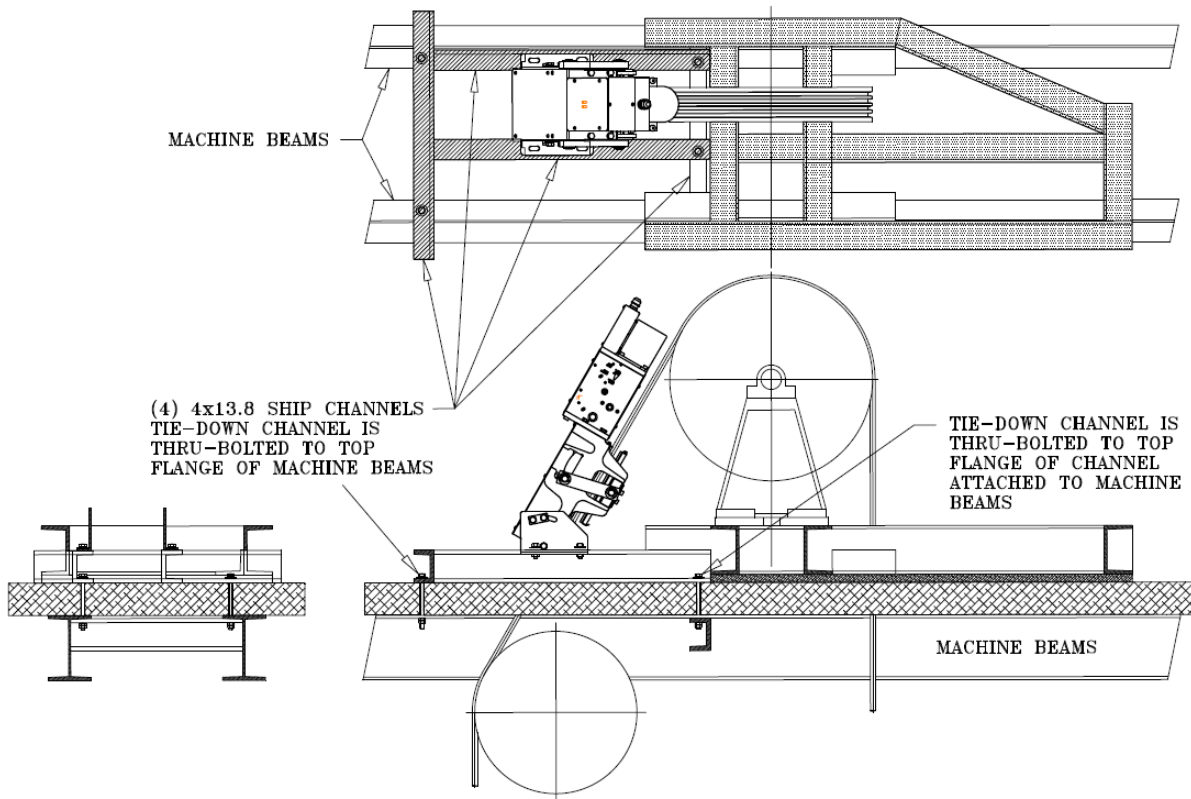
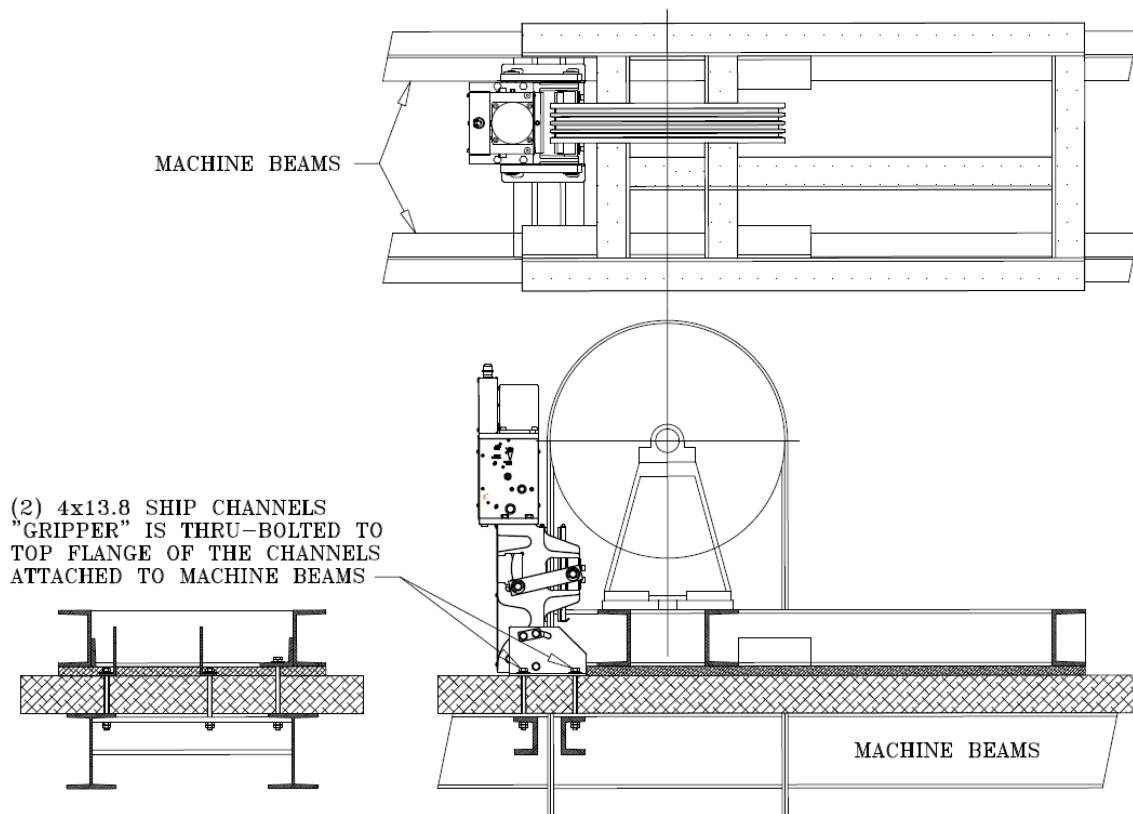

**Figure 2 - 622G Rope Gripper™ Installed at an Angle**
**Figure 3 - 622G Rope Gripper™ Installed Upright**
- The Mounting Channel Framework must be sufficiently sized to securely hold the “ROPE GRIPPER™” and elevator while preventing any sliding. The Traction Machine must also be prevented from sliding. See Figure 2 and Figure 3 for suggested mountings.